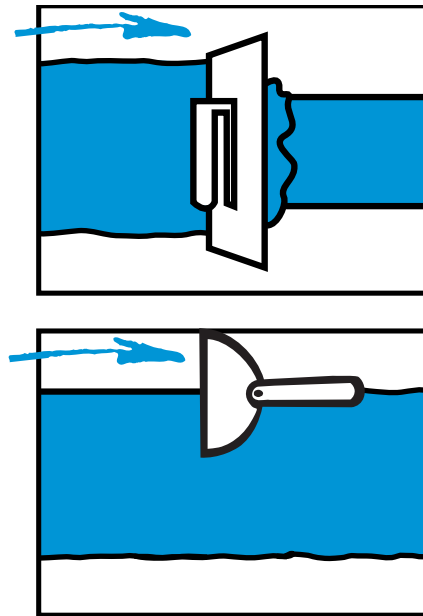
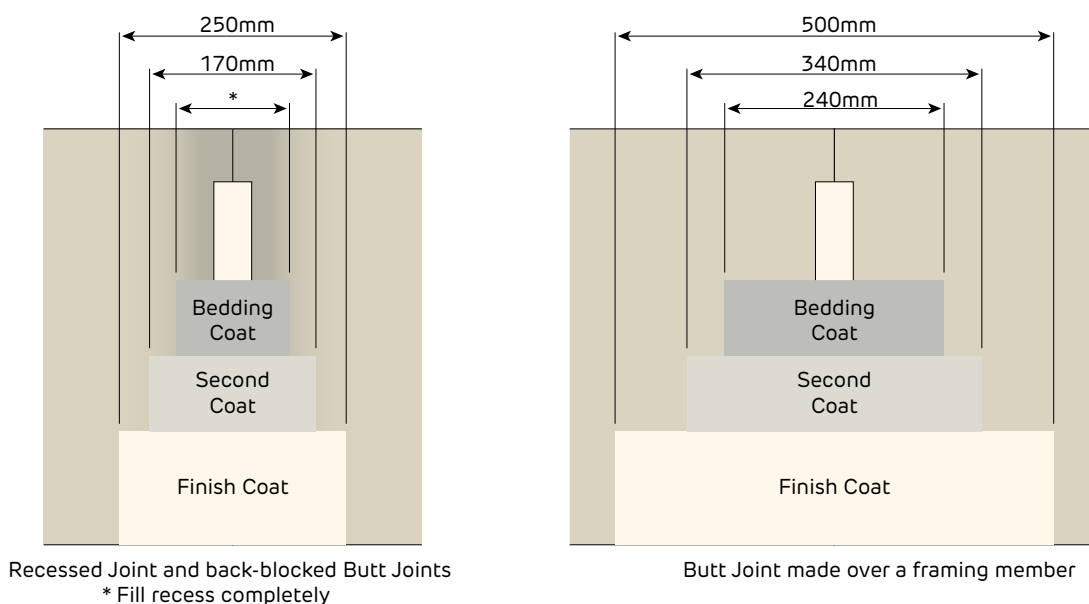

FIGURE 66 Second Coat
FIGURE 69 Minimum Coat Widths After Sanding
- > Using a broadknife, apply compound to the recess [Refer to Figure 69 for minimum coat widths]
- > Using a 200mm trowel to apply a second coat of compound [Refer to Figure 66 and to Figure 69 for minimum coat widths]
- > Use a 280mm trowel to apply a third coat of compound [Refer to Figure 67 and to Figure 69 for minimum coat widths]